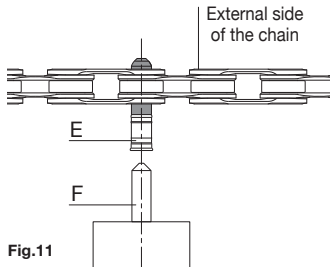

Fig.11
- Check that the tapered tip of the pusher (F) (**Fig. 11**) is in line with the centre of the bushing **5-CN-SR700** (E) (**Fig. 11**).